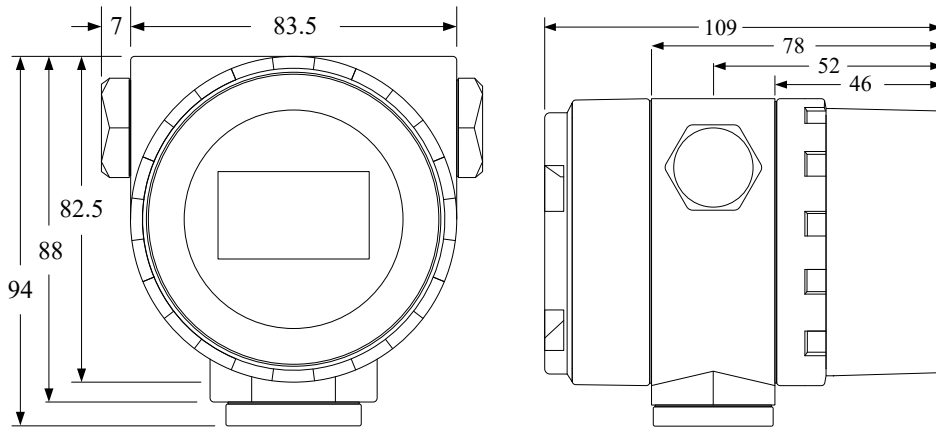

Figure 1.1 Dimensions of temperature transmitter (unit: mm)
- The dimensions of the smart temperature transmitter are shown in the Figure 1.1 below: